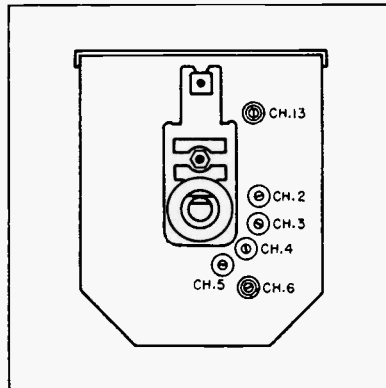

Figure 2. Oscillator slugs for VHF tuner 89 013 553.
2. Readjust the oscillator slug of that channel (see figure 2) so that proper tuning, within the range of the Fine Tuning control, is obtained.